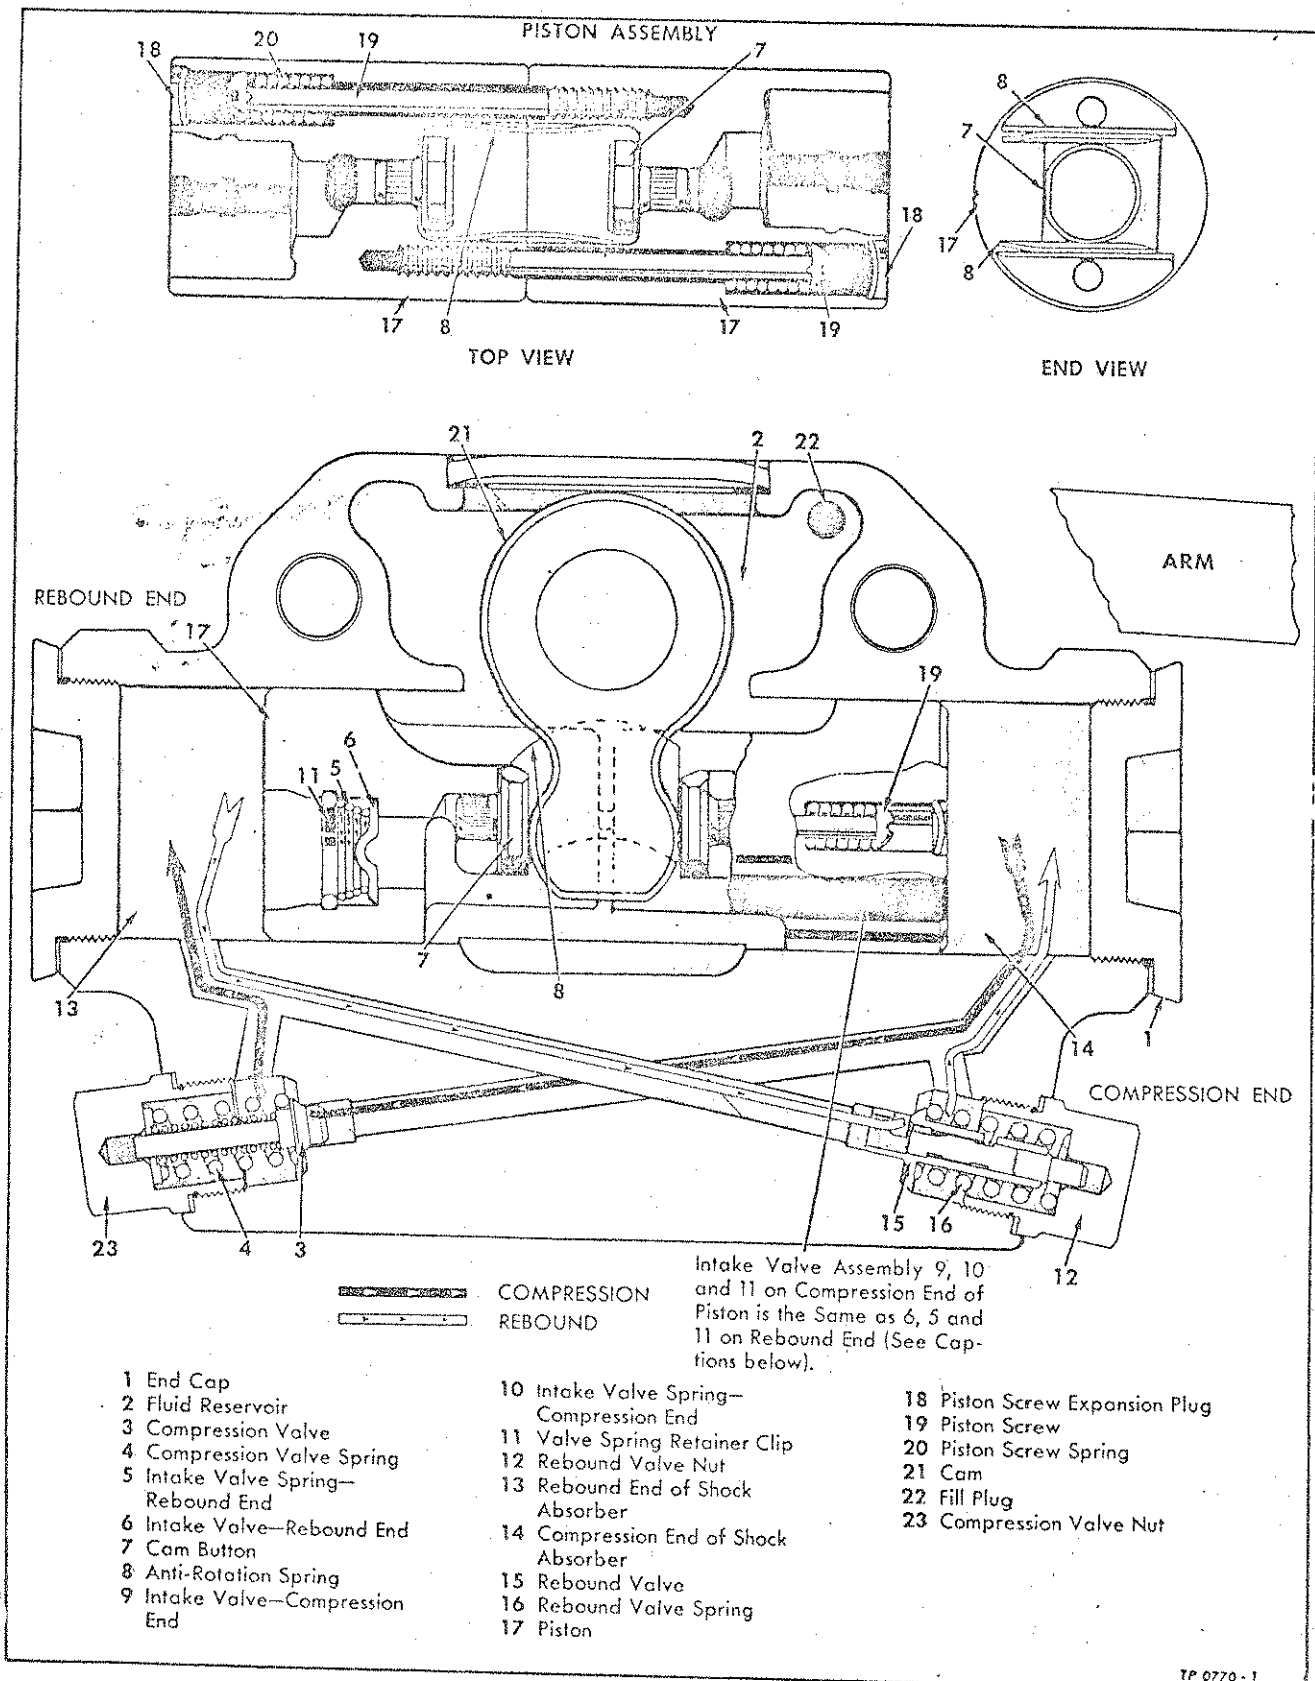

Figure 3—Shock Absorber Construction
Shock absorber sectional view, showing direction of fluid flow during spring compression and rebound, is shown in figure 3.
DISASSEMBLY (Fig. 3)
ASSEMBLY (Fig. 3)
in cylinder. Use size which allows some clearance otherwise binding and noise will result. Position piston and anti-rotation spring (8) as shown in figure 3.
2. Tighten piston screws firmly then back off one to one and a half turns to prevent binding between cam (21) and cam buttons (7), then install new plugs over piston screws.
4. Replace rebound valve (15), valve nut (12), compression valve (3), and valve nut (23). Use new gaskets.